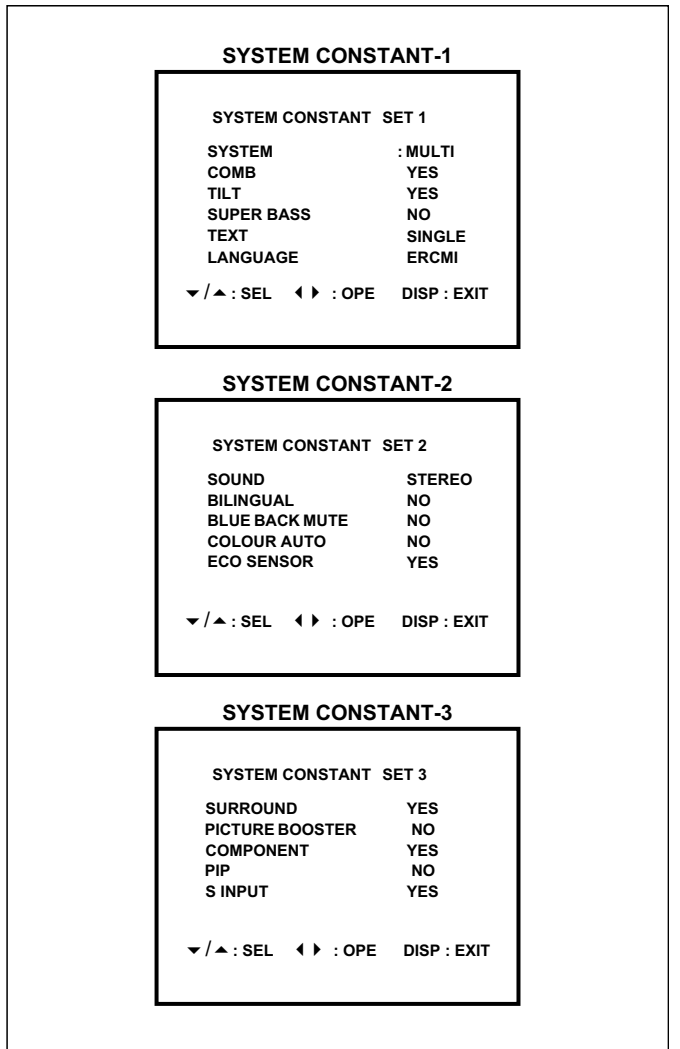

Fig. 2
- (2) In the SERVICE MENU, press the [DISPLAY] key and [PICTURE MODE] key simultaneously. Then, the SYSTEM CONSTANT SET screen will be displayed. (See Fig.2.)
- (3) Check whether the setting values of the SYSTEM CONSTANT SET are the same as those indicated in Table1.